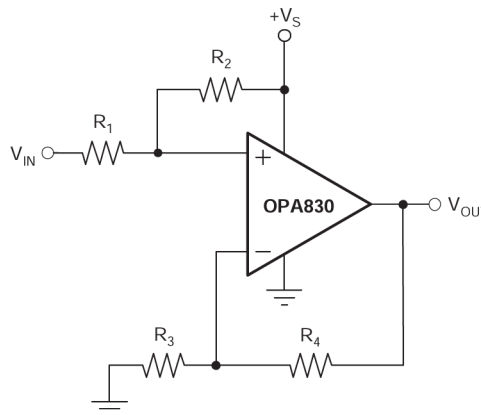

Figure 8-4. DC Level-Shifting
Figure 8-4 shows a dc-coupled non inverting amplifier that level-shifts the input up to accommodate the desired output voltage range. Given the desired signal gain (G), and the amount V_{OUT} needs to be shifted up (ΔV_{OUT}) when V_{IN} is at the center of the range, the following equations give the resistor values that produce the desired performance. Assume that R_4 is between 200 Ω and 1.5k Ω .